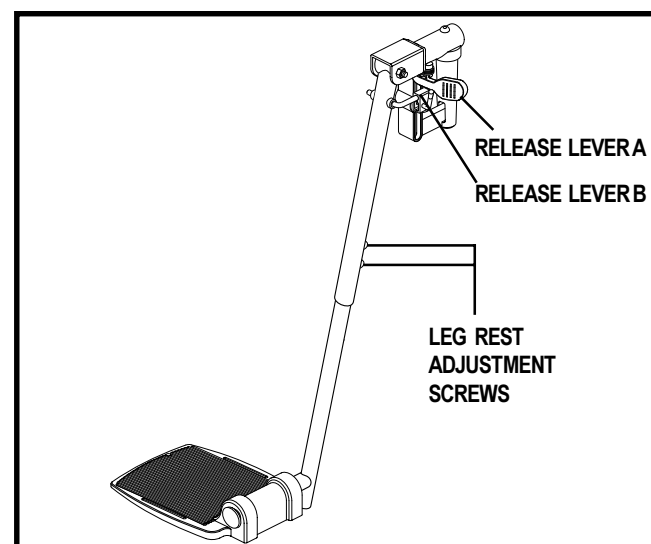

Figure 17. Elevating Leg Rests
1. Push in release lever A. See figure 17.
1. Push down release lever B. See figure 17.